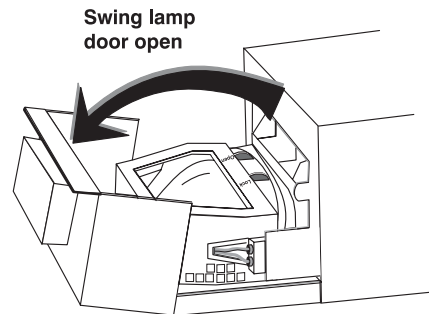

Figure 4.2.
- (b) Swing the lamp door open. (Figure 4.2.) *NOTE: The lamp door is hinged to the base of the module.*